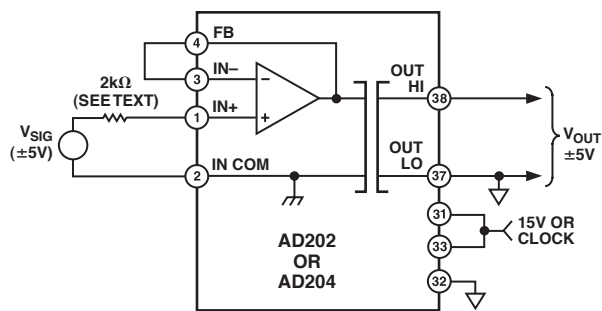

Figure 5. Basic Unity-Gain Application
**Input Configurations.** The AD202 and AD204 have been designed to be very easy to use in a wide range of applications. The basic connection for standard unity gain applications, useful for signals up to  $\pm 5\text{ V}$ , is shown in Figure 5; some of the possible variations are described below. When smaller signals must be handled, Figure 6 shows how to achieve gain while preserving a very high input resistance. The value of feedback resistor  $R_F$  should be kept above 20 k $\Omega$  for best results. Whenever a gain of more than five is taken, a 100 pF capacitor from FB to IN COM is required. At lower gains this capacitor is unnecessary, but it will not adversely affect performance if used.
The noninverting circuit of Figures 5 and 6 can also be used to your advantage when a signal inversion is needed: just interchange either the input leads or the output leads to get inversion. This approach retains the high input resistance of the noninverting circuit, and at unity gain no gain-setting resistors are needed.